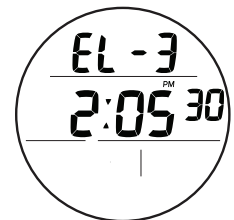

Fig. 135 - FREE SURF ALT 2
**FREE SURF ALT 2**, information includes (Fig. 135):